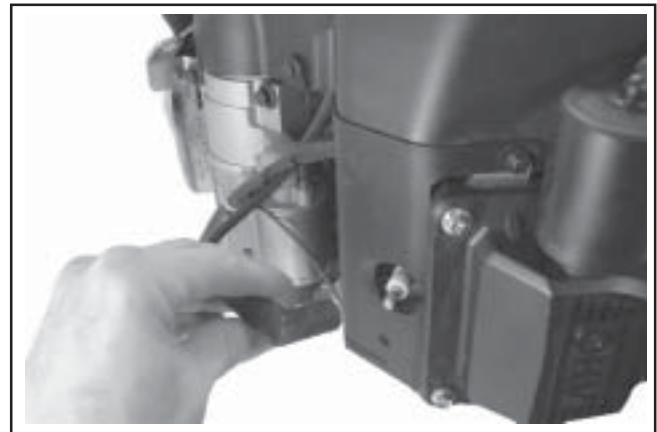

Figure 9-1. Disconnect Spark Plug Leads.
1. Disconnect the leads from the spark plugs. See Figure 9-1.